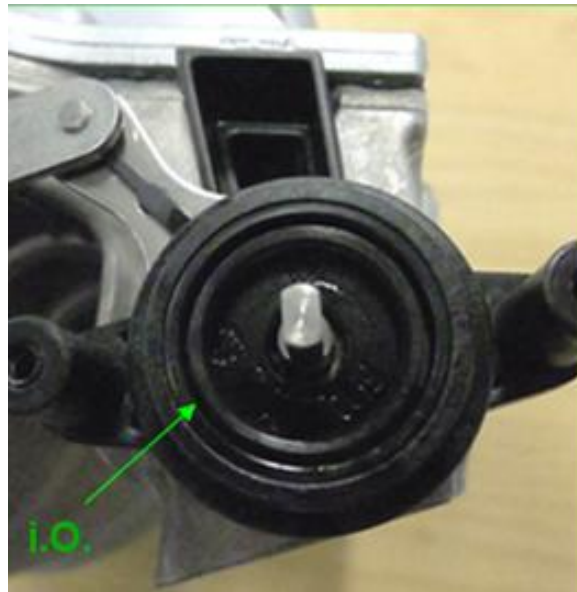

Figure 7. Correct position.
5. The open side of the seal faces the potentiometer. Press the seal ring into seal mount firmly with your fingers, confirm seal is fully inserted. Observe the position, see Figure 7.